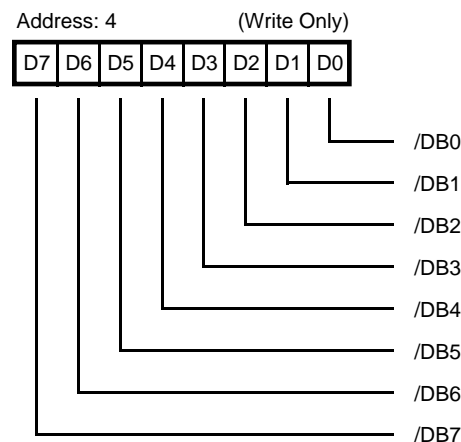

Figure 11. Select Enable Register
Select Enable Register. *Address 4* (Write Only). The Select Enable Register (Figure 11) is a write-only register which is used as a mask to monitor a signal ID during a selection attempt. The simultaneous occurrence of the correct ID bit, /BSY False, and /SEL True causes an interrupt. This interrupt can be disabled by resetting all bits in this register. If the Enable Parity Checking bit (Mode Register, bit 5) is active (1), parity is checked during selection.